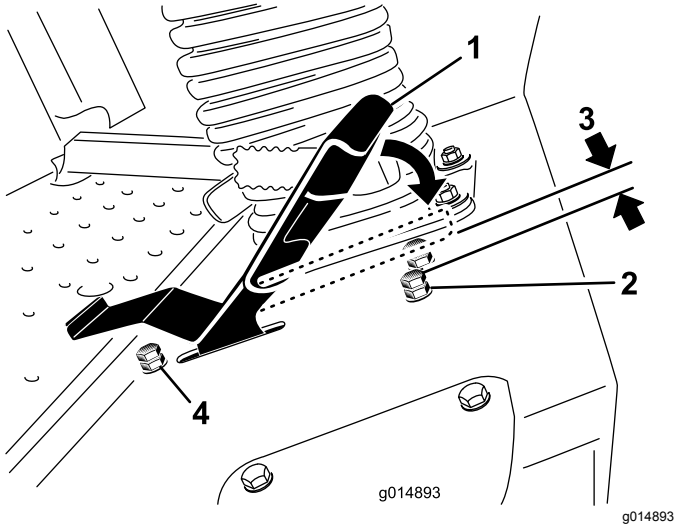

Figure 65
- Loosen the jam nut on the stop bolt for the traction pedal (Figure 65).